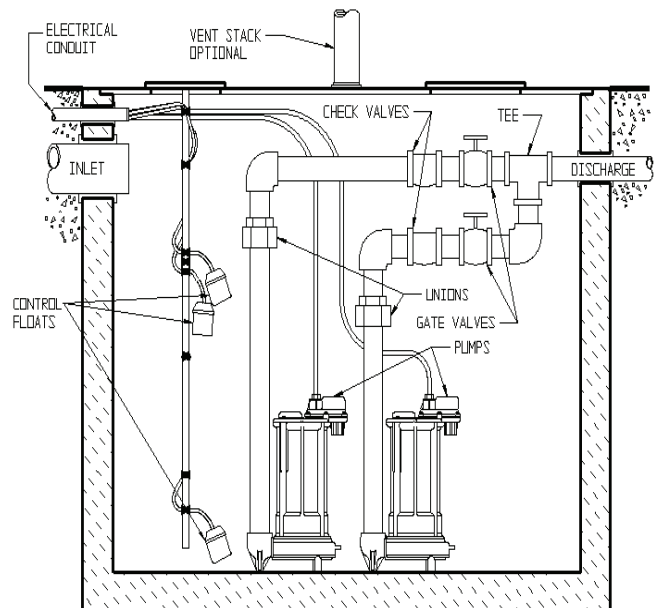

**Fig. 2 – Typical Installation Simplex System**
- A. **Simplex (One Pump) Systems (see Fig. 2):** Set the pump in place making sure the float has adequate clearance to the side wall of the basin. The float must be **free to move throughout its travel** and not contacting the pump body, piping, or other objects. If an optional control device or float is used, follow the directions for mounting that accompany the optional control. Connect the discharge pipe to the pump's threaded discharge. **IMPORTANT: DO NOT REDUCE THE DISCHARGE PIPE SIZE BELOW THAT WHICH IS PROVIDED ON THE PUMP.** Contact Liberty Pumps or other qualified person if you have questions regarding proper pipe sizes and flow rates. Mount the basin cover making sure it is properly sealed.